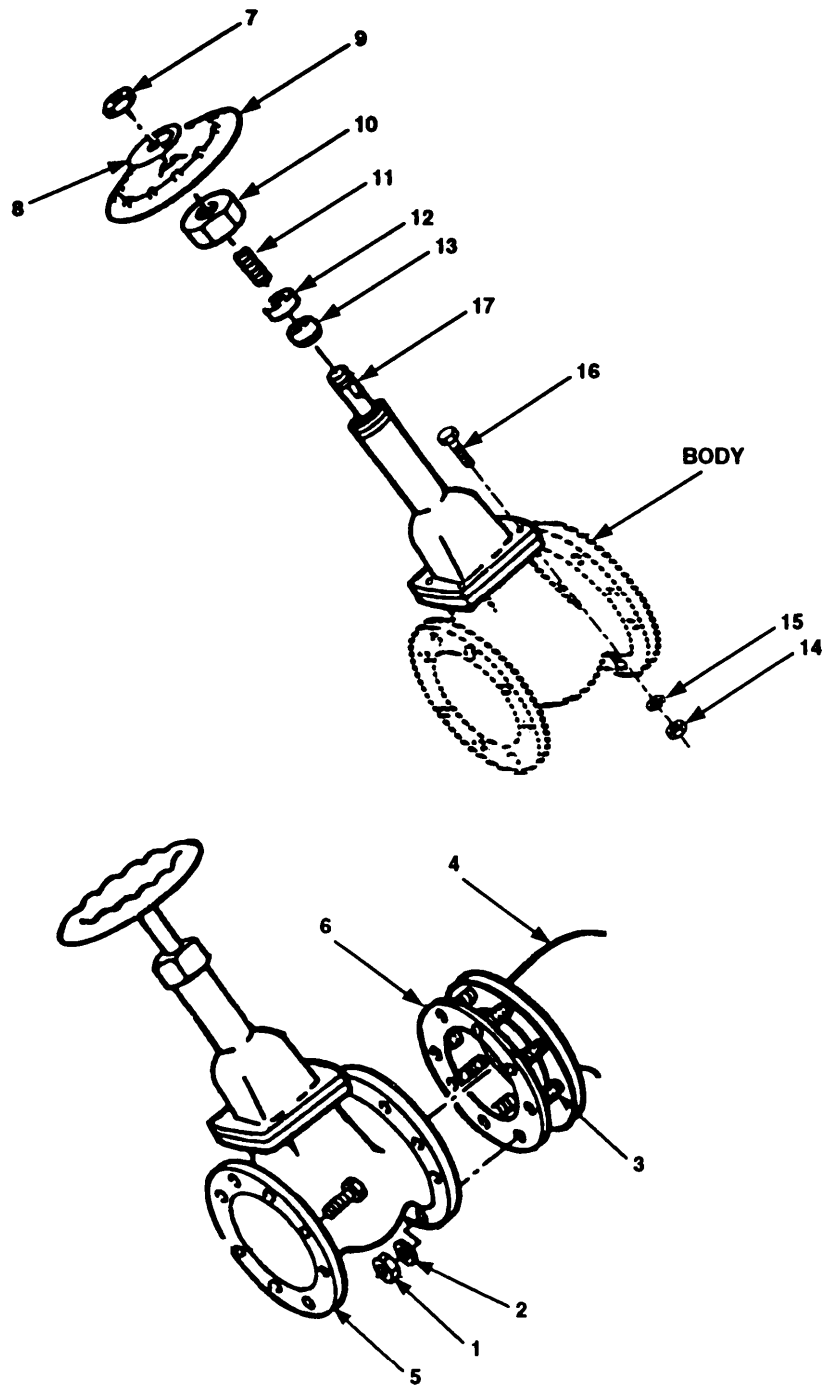

Figure 4-61. Gate Valve Maintenance.
- a. Remove eight nuts (figure 4-61, 1) and eight lockwashers (2) from studs (3) on manifold (4) .
- b. Remove gate valve (5).
- c. Remove and discard gasket (6).
- a. Remove nut (7), plate (8) and hand wheel (9).
- b. Remove packing nut (10) and spring (11).
- c. Remove packing gland (12) and old packing (13).
- d. Remove eight nuts (14), lockwashers (15), bolts (16).